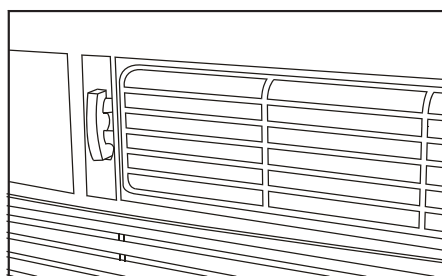

Fig. 2 (FRESH AIR)
2. Draw fresh air into the room - Fresh Air (see Fig. 2)